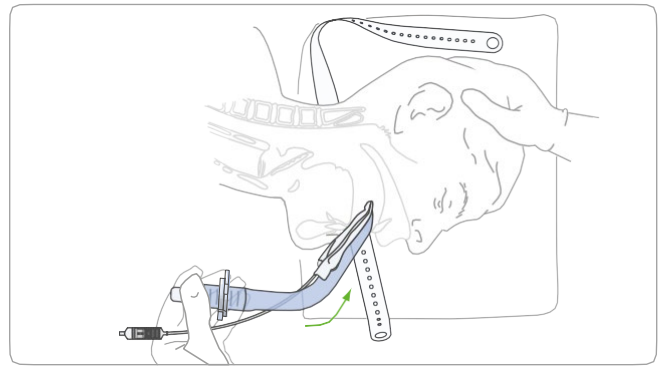

Figure 10. Press the cuff further into the mouth, maintaining pressure against the palate
8. Press the distal tip against the inner aspect of the upper teeth or gums as shown in **Figure 10**.